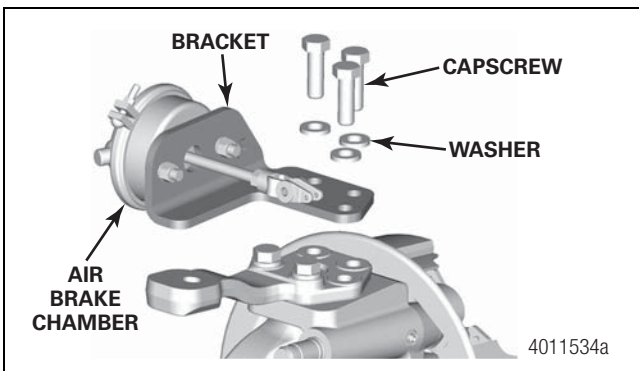

Figure 4.17
7. Remove the air brake chamber and bracket. Figure 4.17.